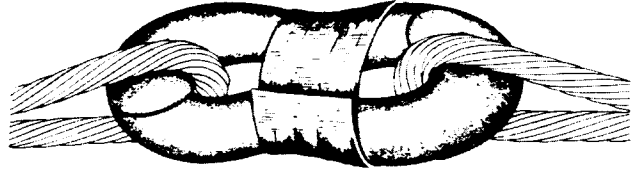

Fig. 3 — Use of Friction Tape to Prevent Opening of Link
4.02 To prevent the link from opening and fouling when tension is removed and slack is introduced, secure the link with two or three turns of 2-inch friction tape, as shown in Fig. 3.